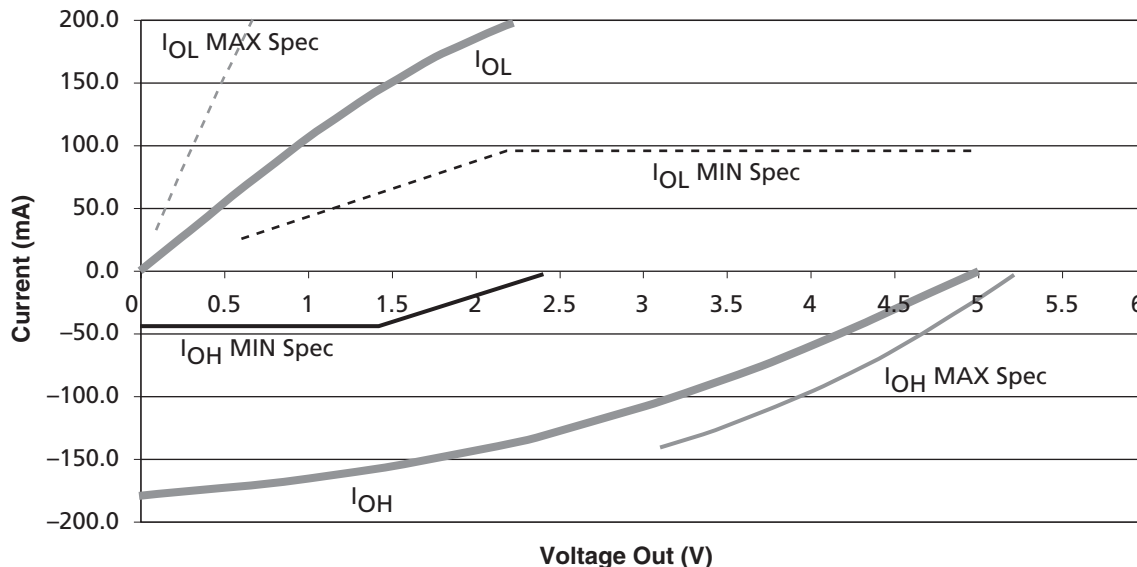

Figure 2-1 • 5 V PCI V/I Curve for SX-A Family
1. Refer to the V/I curves in Figure 2-1 on page 2-5. Switching current characteristics for REQ# and GNT# are permitted to be one half of that specified here; i.e., half size output drivers may be used on these signals. This specification does not apply to CLK and RST#, which are system outputs. "Switching Current High" specifications are not relevant to SERR#, INTA#, INTB#, INTC#, and INTD#, which are open drain outputs.
3. Maximum current requirements must be met as drivers pull beyond the last step voltage. Equations defining these maximums (A and B) are provided with the respective diagrams in Figure 2-1 on page 2-5. The equation defined maximum should be met by design. In order to facilitate component testing, a maximum current test point is defined for each side of the output driver.
Figure 2-1 shows the 5 V PCI V/I curve and the minimum and maximum PCI drive characteristics of the SX-A family.